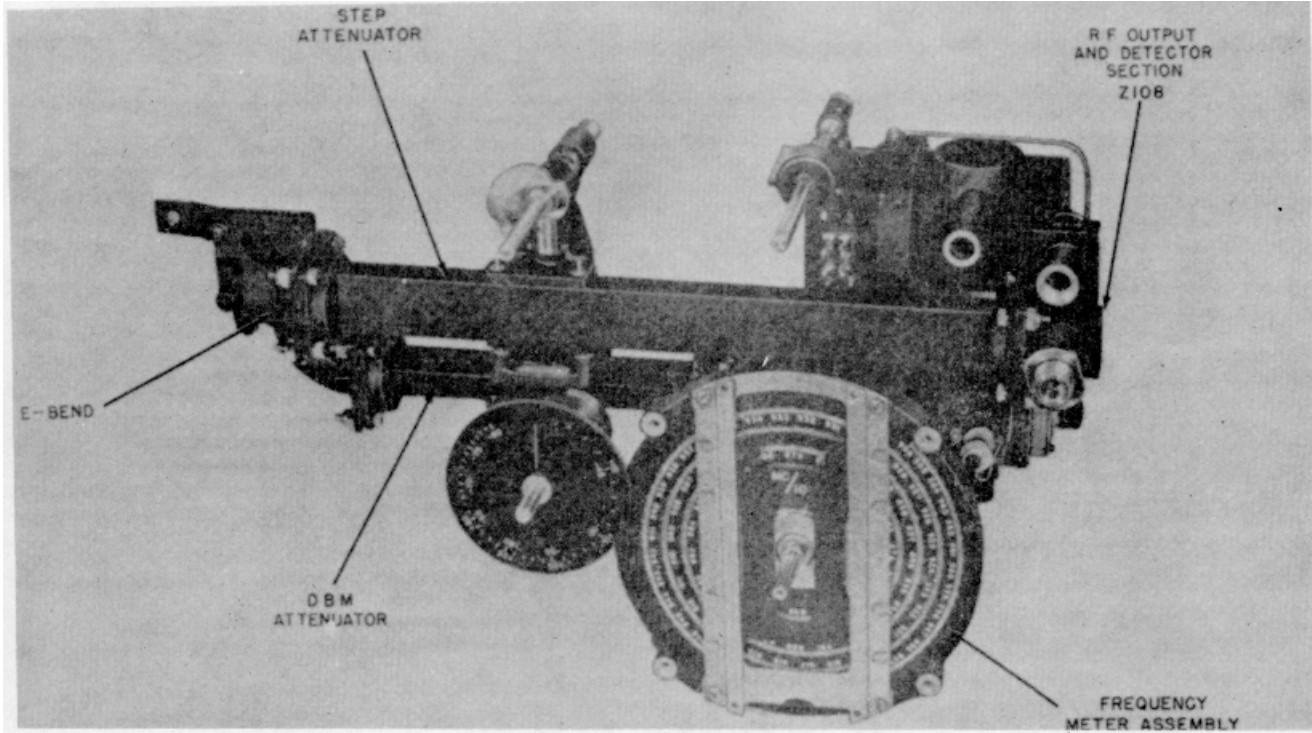

Figure 5-5. Assembled Wave Guide, Front View
(2) It will almost never be necessary to remove and replace parts of the RF plumbing for any reason, unless the test set has been subjected to rough handling, such as being dropped, or the mechanical adjustments have been disturbed by jarring or tampering.
(3) The following assemblies (See figures 5-5 and 5-6.) can be removed and replaced with new parts without affecting the calibration curve supplied with each test set: